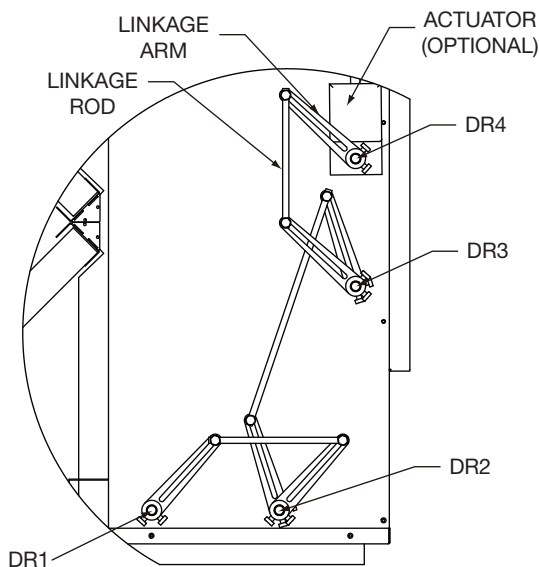

Fig. 46 — Area A Detailed View
- Place a linkage arm onto DR3 and DR2. See Fig. 46 and 47. for proper positioning. Ensure that swivel joints are fully extended to the end of the linkage arm and tighten.